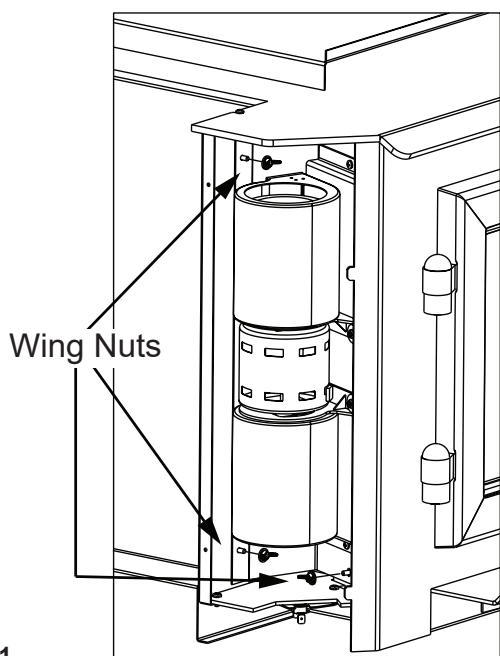

Figure 24.1
2. Using a Phillips head screwdriver, remove 8-32 screw, washer and bushing assemblies holding left side panel in place. Remove panel (**Figure 24.1**).
4. Remove three wing nuts as shown (**Figure 24.1**).